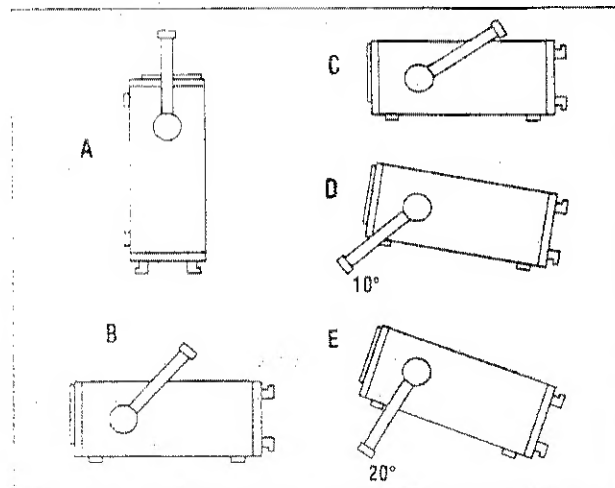

Fig. 1. Tilt Handle Operation
To view the screen from the best angle, there are three different positions (C, D, E) for setting up the instrument (see Figure 1). If the instrument is set down on the floor after being carried, the handle automatically remains in the upright carrying position (A). In order to place the instrument onto a horizontal surface, the handle should be turned to the upper side of the Spectrum Analyzer (C). For the D position (10° inclination), the handle should be turned to the opposite direction of the carrying position until it locks in place automatically underneath the instrument. For the E position (20° inclination), the handle should be pulled to release it from the D position and swing backwards until it locks once more. The handle may also be set to a position for horizontal carrying by turning it to the upper side to lock in the B position. At the same time, the instrument must be lifted, because otherwise the handle will jump back.